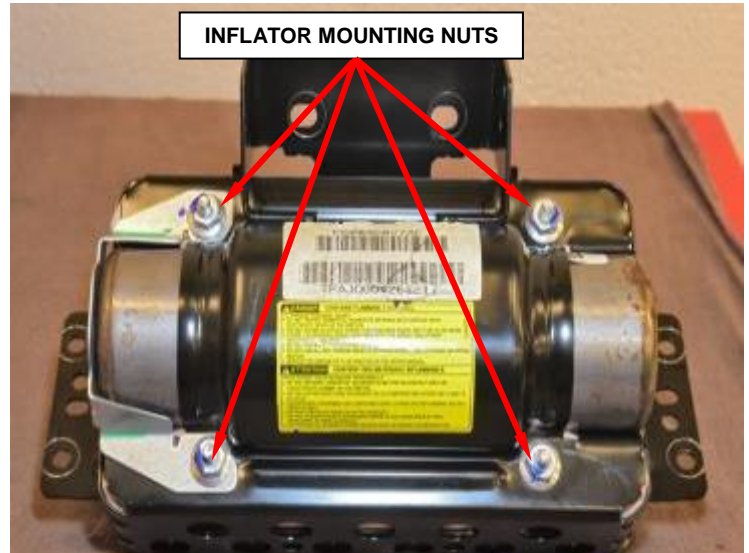

Figure 50 – Mounting Nuts
- b. Remove and **discard** the four inflator mounting nuts (Figure 50).
- n. Install the four **NEW** mounting nuts to the airbag housing and tighten to 53 in. lbs. (6 N·m) (Figure 50).